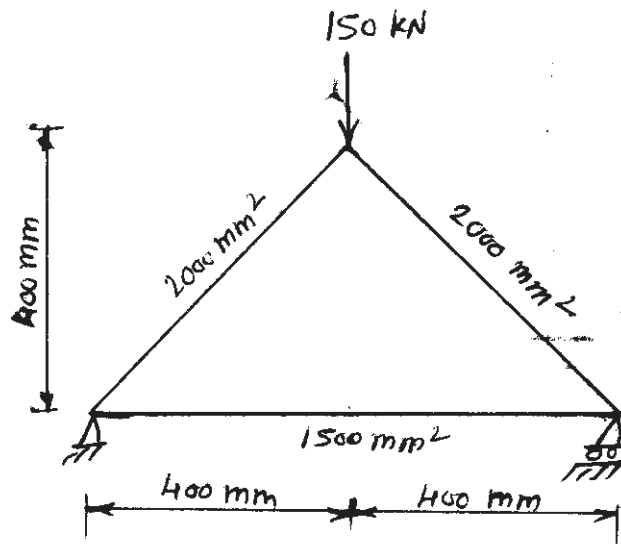

Fig. 4
- Q7)** For the three bar truss shown in fig. 4, determine the nodal displacements and the stress in each member. Take $E = 200 \text{ GPa}$. [18]